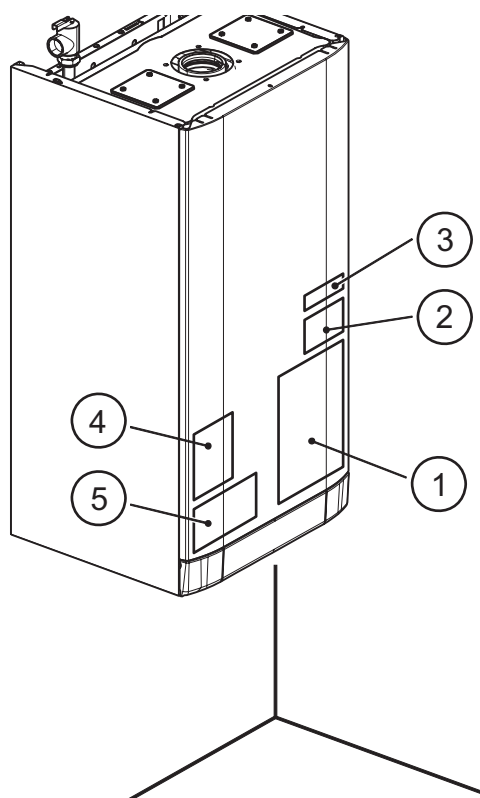

Figure 15.33
**Warning:** The installation is not complete unless labels supplied are placed on the boiler as shown in Figure 15.33.
According to Figure 15.33 place all the labels on the boiler. Use label numbered as 1 (already installed in the front panel) to begin the placement in the correct way.